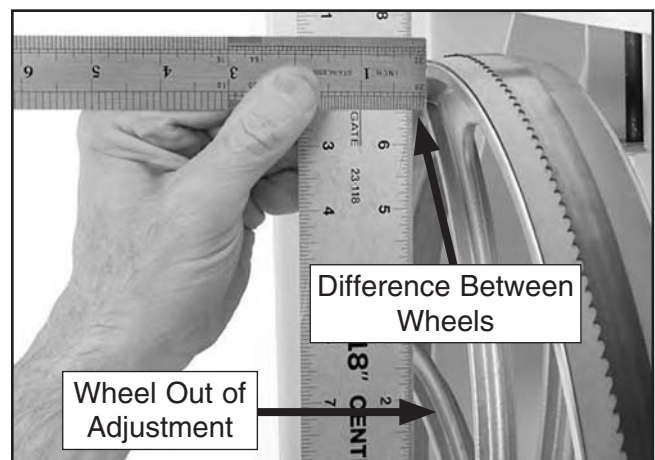

Figure 2. Determining distance needed to shim upper wheel.
3. With a straightedge touching both points of the wheel that does not need to be adjusted, measure the distance away from the wheel that is out of adjustment (see **Figure 2**).